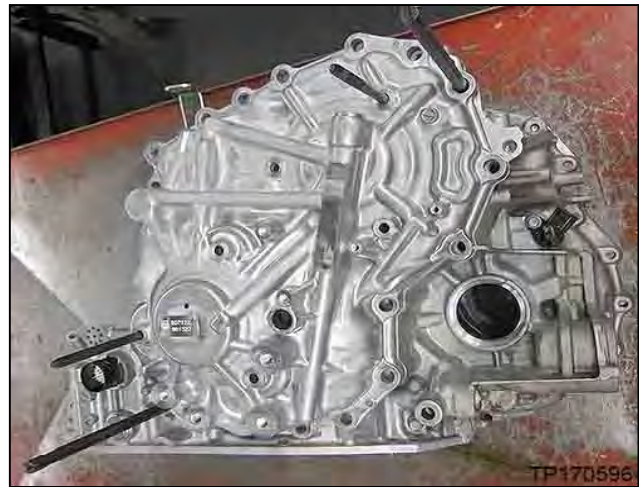

Figure 120
**NOTE:** Figure 120 shown with Side Cover Alignment Aid removed.